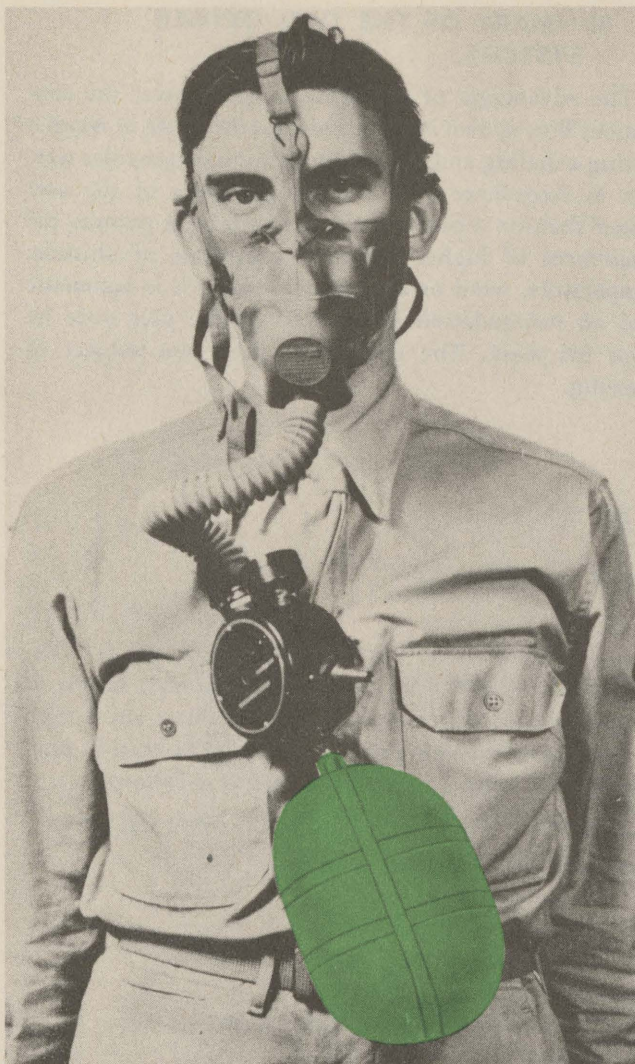

Figure 21—Portable Oxygen Assembly
(1) In transports, without oxygen for troops and sometimes crew, high pressure continuous flow portable units consisting of the B-1 cylinder, A-8A regulator and canvas carrying sling can be used (Dwg. No. 41G9673).
(2) In other airplanes (late B-25's and B-26's) in which oxygen equipment is not installed, portable oxygen units may be needed for ferry and special missions requiring flight at high altitudes. Low pressure demand portable units for these purposes consist of the F-1 cylinder, A-12 regulator, pressure gage, filler valve, and mask-to-regulator hose.
(3) Heavy bombardment aircraft with low pressure continuous flow oxygen systems will use high pressure continuous flow portable A-2 cylinder, A-8A regulator, and canvas carrying sling (Dwg. No. 41G2437). An alternate can be made up as per Drawing No. 43B16246, using a D-2 cylinder, A-9A regulator, filler valve and canvas carrying sling.
(4) Portable (walk-around) apparatus assembly (figure 21), demand type, is provided in heavy bombardment aircraft having the demand type oxygen system. One